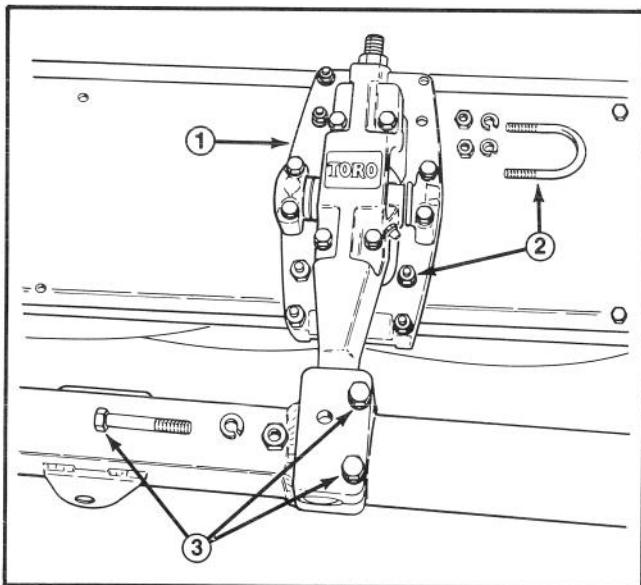

Figure 6
Mount Floatation Kit Assemblies (Fig. 6) to all five cutting units using supplied "U" bolts. Male end of floatation assembly extends forward. Tighten U-bolts evenly.
- A. Remove 3 (metric) bolts from each of the five lift arms (Fig. 6).
- C. Roll the appropriate cutting unit forward and match the male end or pivot arm with the hole in the lift arm. (**Note:** It may be necessary to spread slotted block on lift arm slightly to slide pivot arm fully into hole.) Reinstall three lift arm bolts but do not tighten (Fig. 6).
D. To assure good quality of cut and maximum overlap of cutting units move the #2, #3, #4 and #5 cutting units toward the center line of the machine by rotating the pivot arm. As each cutting unit is moved toward the center line of the machine tighten the floatation kit and lift arm fasteners to secure its position (Fig. 6).